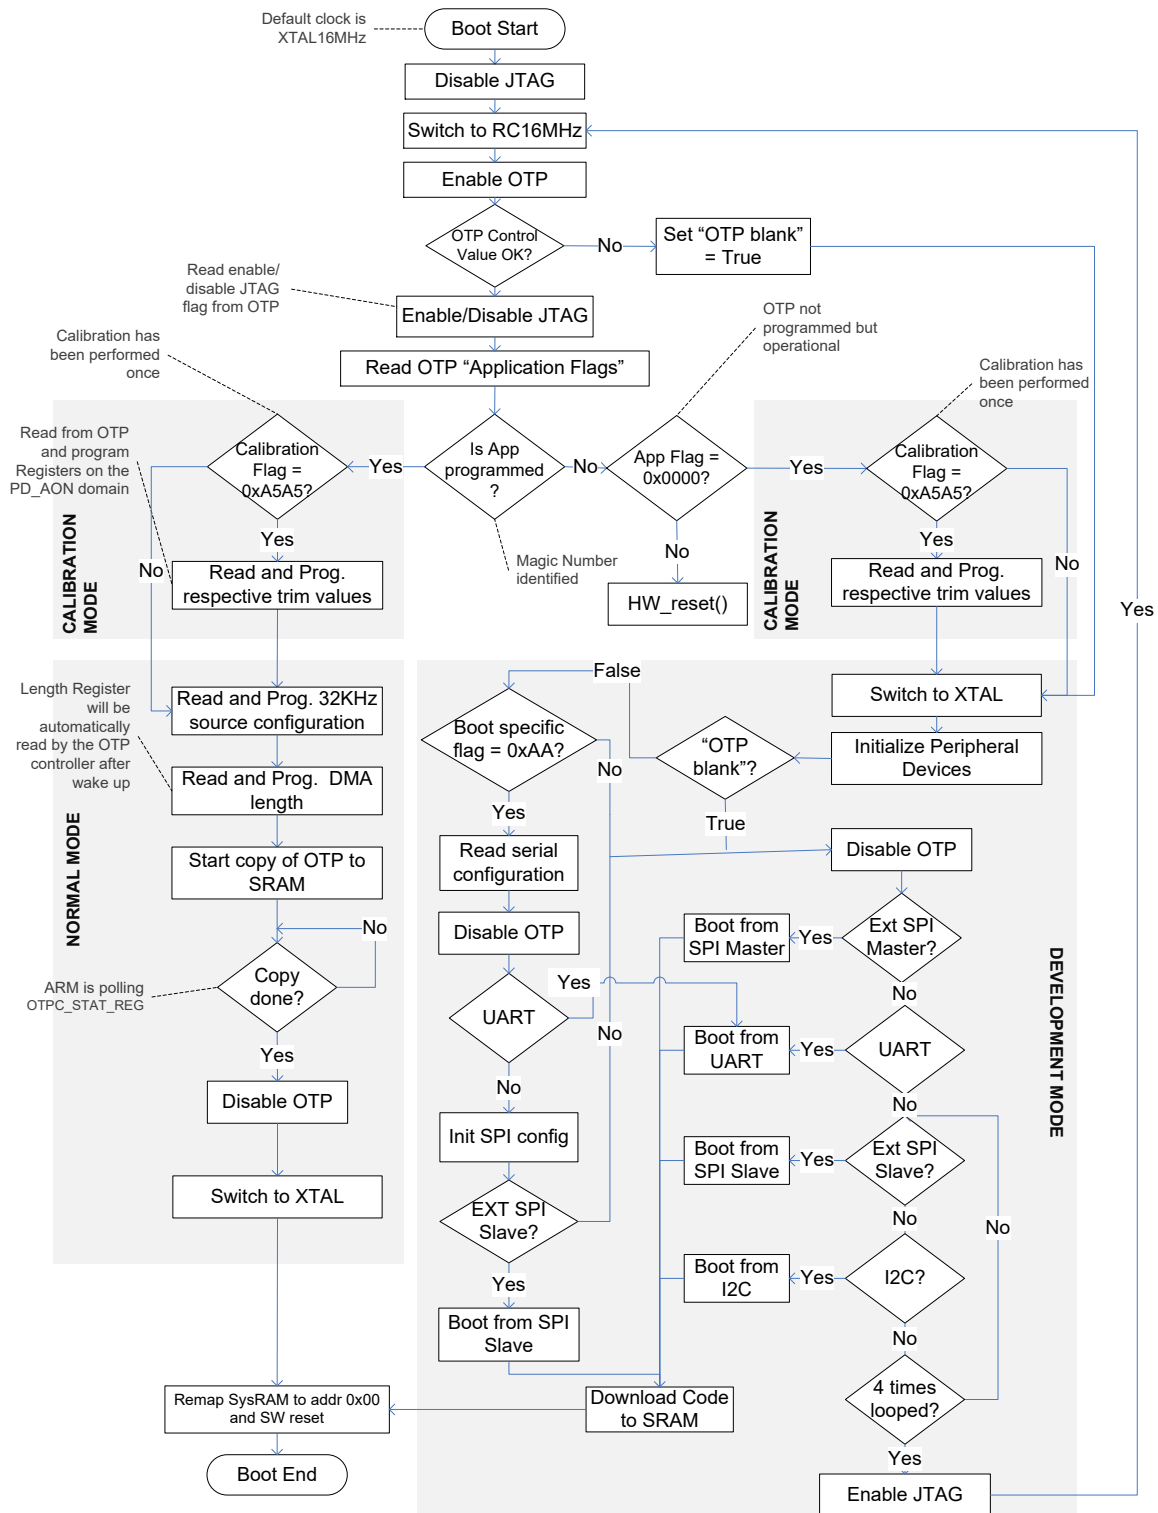

Figure 9: BootROM Sequence
The booting process of the DA14585 High Temperature is presented in Figure 9.
**Note 3** This step is performed in a 4 times' loop (see Figure 9). SCK in 1st iteration is 8MHz, in 2nd 4MHz, in 3rd 2MHz and in 4th 1MHz.